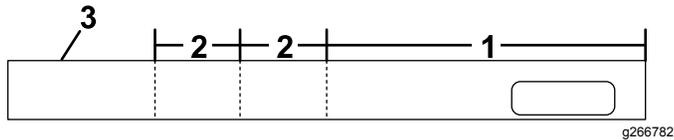

Figure 10
1. Cut the belting as shown in Figure 10.